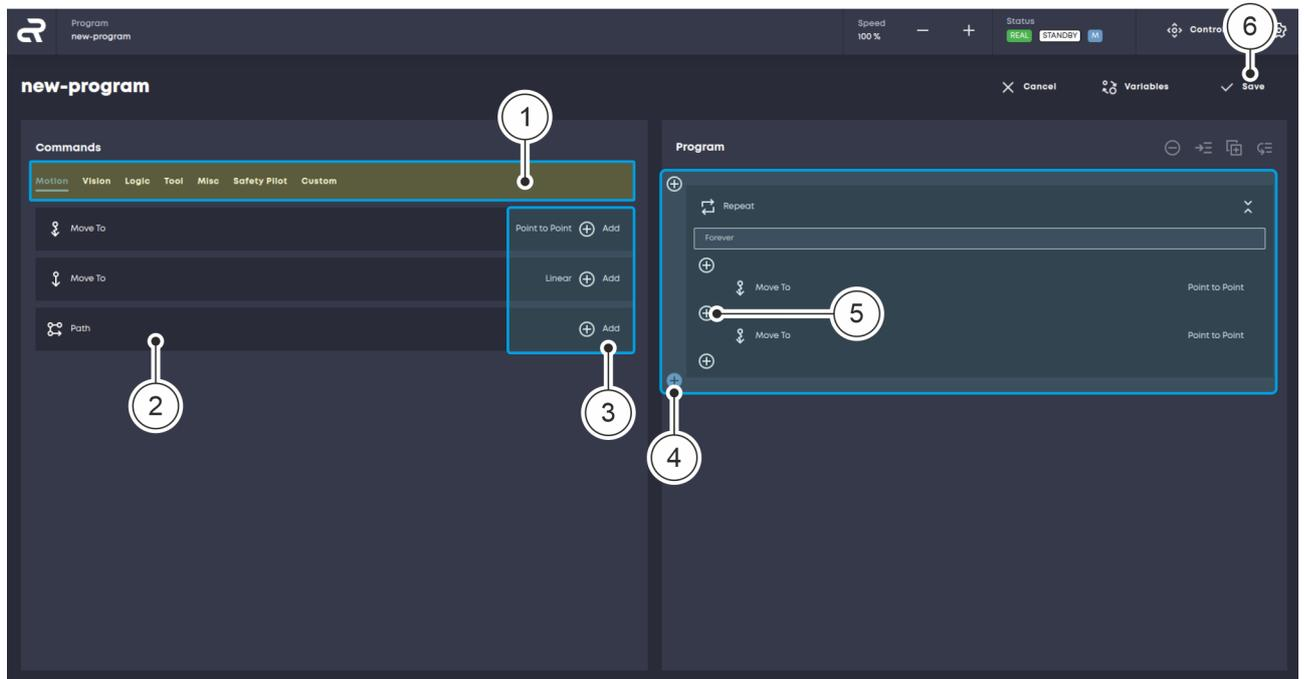

Fig. 27 Assigning commands in the 'Program' menu
05. In the 'Program' menu (right half of the screen), define the program sequence by adding individual command blocks Fig. 27.